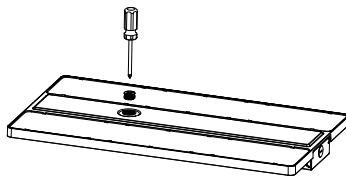

Figure 9
Step 1. Use a screwdriver to remove the 1/2 plug from the sensor; (Figure 9)